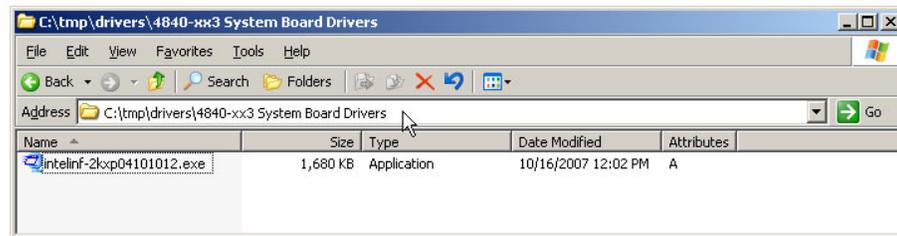

Figure 2-19 System board driver package
1. First, download the appropriate driver file from the relevant web site. The latest device drivers for IBM SurePOS systems can be found at <http://www2.clearlake.ibm.com/store/support>. In our case we are creating a driver package for the system board driver for the IBM SurePOS System type 4840-553. which are in the file intelinf-2kxp04101012.exe as shown in Figure 2-19.